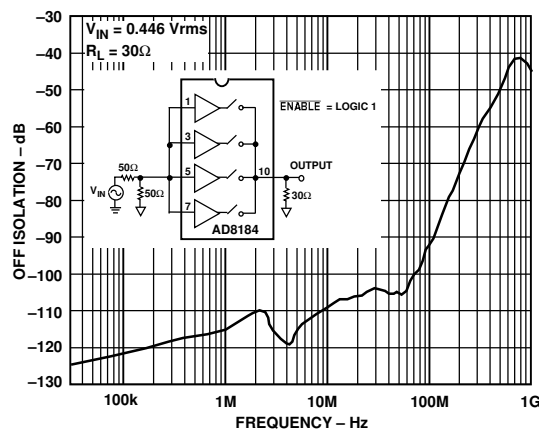

Figure 13. "OFF" Isolation vs. Frequency
- 7Multiplexer is disabled (i.e., ENABLE = logic 1) and all inputs are driven simultaneously with VIN = 0.446 V rms. Output is monitored at f = 5 and 30 MHz. RL = 30 Ω to simulate RON of one enabled multiplexer within a system (see Figure 13). In this mode the output impedance is very high (typ 10 MΩ), and the signal couples across the package; the load impedance determines the crosstalk.